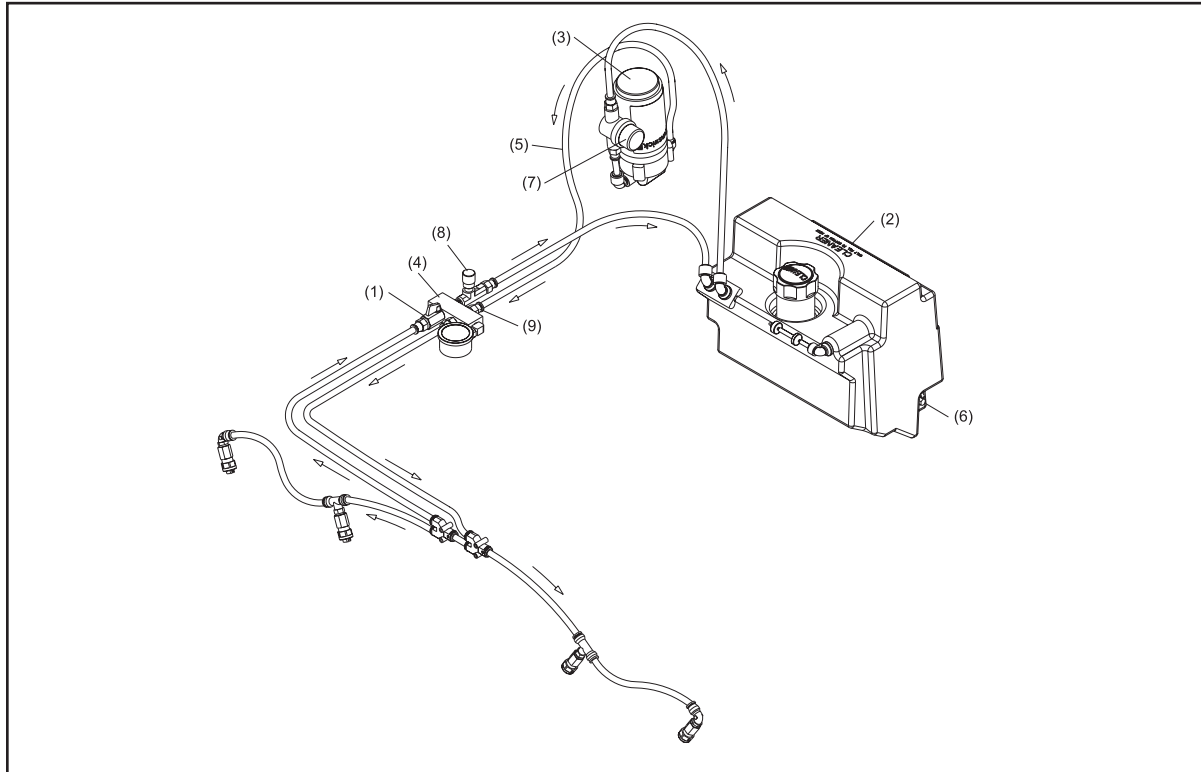

Figure 6-15. Draining the Cleaner Supply Tank
Refer to Figure 6-15.
3. Disconnect the supply tubing from the left hand (7-pin side) top position of the cleaner manifold assembly. Refer to number (9) in Figure 6-15.